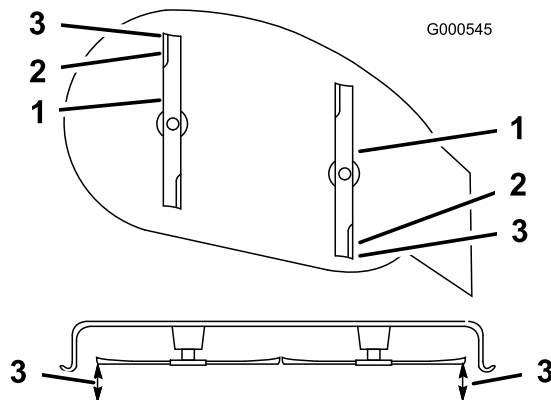

Figure 43
5. Set the height-of-cut at position 3 [3 inch (76 mm)] and carefully rotate the blades so they are facing front to rear (Figure 43).
6. Measure from the tip of the front blade to the flat surface and the tip of the rear blade to the flat surface (Figure 43). If the front blade tip is not 1/16-5/16 inch (1.6-7.9 mm) lower than the rear blade tip, adjust the front locknut.
is 1/16-5/16 inch (1.6-7.9 mm) lower than the rear blade tip (Figure 43).